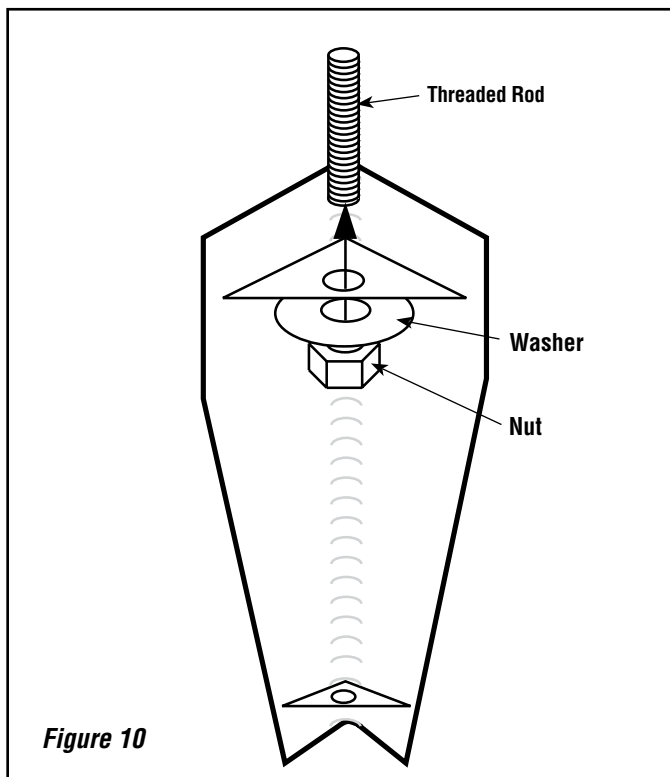

Figure 10
2. Mount all four legs as shown in **Figure 10**.